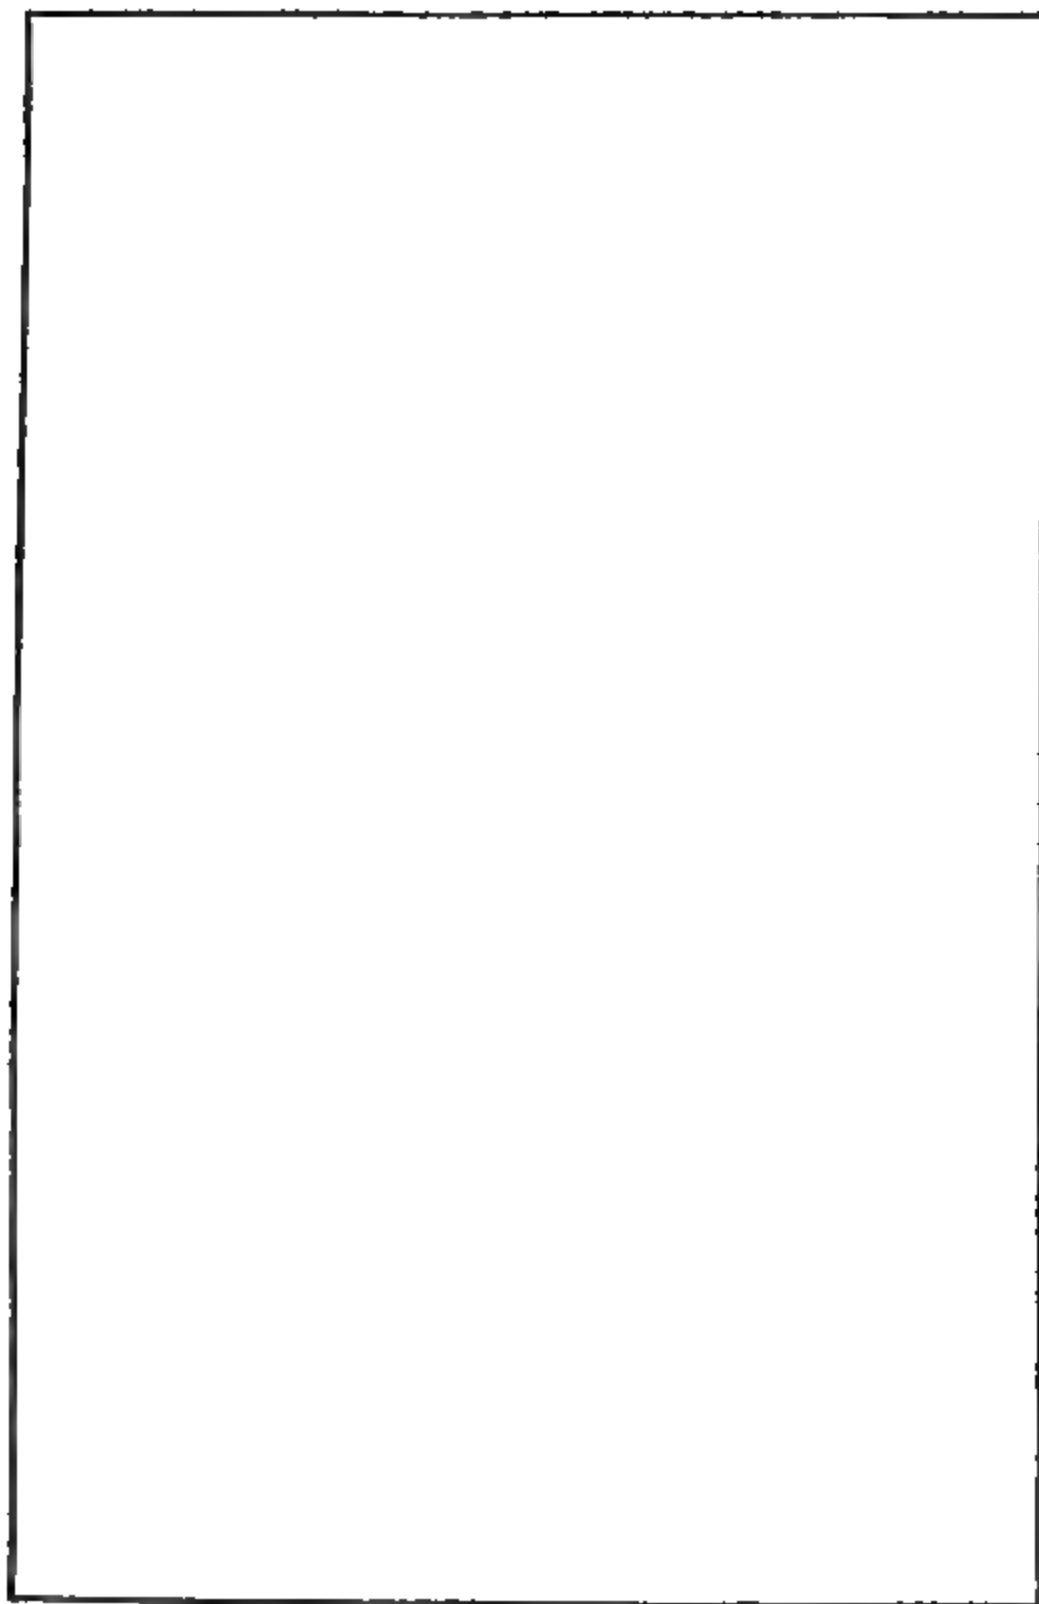

Fig. 3.—Mortise and tenon joints.
*Mortise and Tenon Joints* are used in the making of doors, tables, and various kinds of woodwork. They vary in shape according to the work they have to do. The mortise is the hole, and the tenon is the piece driven into it. In house doors these tenons go right through the uprights, or "stiles," of the door, and are wedged on the outside edge (Fig. 3, *a*). This "through" tenon is only necessary in large work, where extra strength is required.
In smaller work, such as a cabinet door, the tenon is "stopped," and penetrates only about two-thirds of the stile. Fig. 3, *a*, shows the "through" tenon and the wedges (dark). The mortise is cut back at each end to take the wedge. The edge-on view of the stile shows the end of the tenon slightly shaded and the wedges darker. These wedges have to be driven in very carefully to avoid splitting a piece out of the end of the stile. They should be slightly bevelled off at the thin end, so that it clears the fibres of the wood when it is driven in. When cutting mortises in stiles near the ends, always leave a waste piece on for strength in working, as in the case of the frame (Fig. 3, *d*). In the next diagram (Fig. 3, *b*) is seen a "stopped" tenon, the joint generally adopted by cabinet-makers where any great strain or strength is not required; whilst the tenon itself is shown in Fig. 3, *c*, with a piece left on at B, which is called the "haunch." This haunch serves two purposes. It fills in the space made by the groove when the door is panelled, as in an ordinary house door; and it gives rigidity and strength to a rail, as in the frame of a table. The tenon and haunch is shown in Fig. 3, *b*, as it would be in a table, the haunch in this case being sloped. A tenon should occupy, laterally, about one-third the thickness of the wood. In cutting down the tenon be careful to keep the saw *outside* the lines.
Fig. 3, *d*, is an illustration of a door frame suitable for a cabinet or cupboard. It is made with a stopped tenon, and shows the haunch, which would only be used if the panel is to be grooved-in. A tenon will enter the mortise easier if the end corners be cut off, as a sharp square edge is likely to catch on the uneven sides of the mortise.
The next diagram (Fig. 3, *e*) shows a form of tenon which goes right through the wood and protrudes sufficiently to allow a wedge to be driven into a hole in the projecting part. This is a great advantage in such a thing as a standing bookshelf, as it allows for easy separation of parts if occasion requires. It is not glued, since the further in the wedge is driven the tighter does the joint become. But do not drive in the wedge too hard, or there may be damage done.
The *through tenon* shown in Fig. 3, *f*, is used when divisions in bookcases, cabinets, and show-cases, etc., are fixed into the tops and bottoms. In a division about a foot wide, three such tenons should be used. They go right through and are wedged as in Fig. 3, *g*. A saw cut is made down the centre of the tenon for about half its length, and the wedge is glued and driven into the cut. It should be noted that the wedge lies at right angles to the fibres of the other piece, for if it were parallel to them it would split the board from end to end.